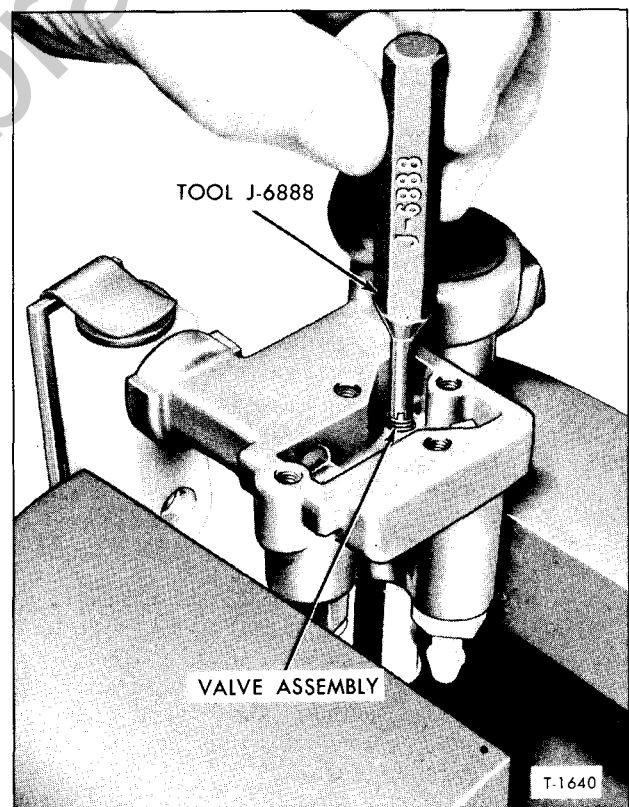
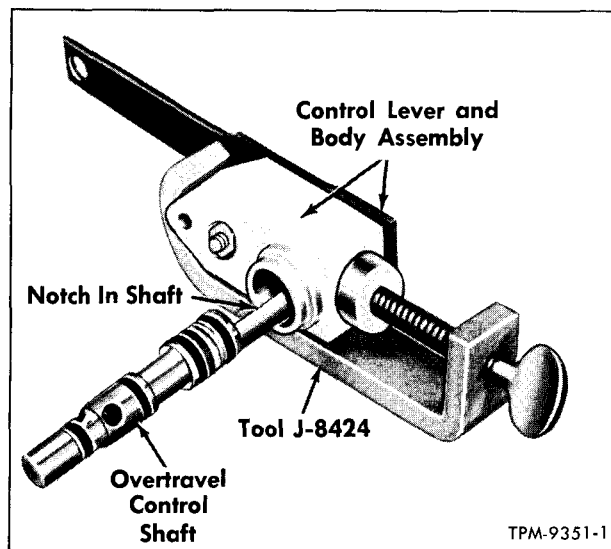

Figure 15—Replacing Valve Core Assemblies
Figure 16—Replacing Overtravel Lever
1. Remove inlet adapter and check valve assembly (23) from valve body (8). Remove outlet adapter (24). Remove adapter O-rings (26). Remove air line fitting gasket (22) from adapters. Remove outlet adapter screen (25).
2. Remove four cover screws and lock washers (1) from cover and bracket (2). Remove cover and bracket and gasket (3).
3. Position valve with delay plug (30) at top. Unscrew delay plug from valve body (8). Drain silicone fluid from cavity. Remove plug O-ring (31). Unscrew piston pin (32) from control shaft (11).
4. Remove delay cover retainer (36), cover (35) and cover O-ring (34). Remove delay piston (33). Discard O-ring.
5. Remove valve lever screw and lock washer (4) from valve lever. Remove exhaust valve and intake valve lever (6) from valve body.
6. Remove valve stem lock clip (5) from stem of exhaust valve core. Spread locking arms and slide clip from around stem.
8. Remove intake valve core (7) with tool (J-6888) as shown in figure 15.
9. Remove exhaust fitting (27) and screen (28), then remove exhaust valve core (29) with tool (J-6888) as shown in figure 15.
10. Remove plug retainer (18) from overtravel control body (17). Retainer must be cut off. Use caution to avoid damage to nylon body. Remove overtravel body plug (13).
11. Place forked end of tool (J-8424) around shaft in overtravel control body, then tighten clamp screw. Refer to figure 16.
1. Install intake valve core (7) and exhaust valve core (29) with screen (28) in control body (8) as shown in figure 15. Tighten to proper torque. Install exhaust fitting (27).
- a. Install overtravel lever (20) on control body. Place lever stud nut (19) on stud and tighten to torque listed in "Specifications" at end of this section.
- b. Place overtravel lever large spring (15), and overtravel lever small spring (16) inside piston (14). Insert piston in control body (17).
- c. Place three new O-rings (10 and 12) on overtravel control shaft (11). Lubricate shaft and O-rings with multi-purpose grease.
- d. Position fork of tool (J-8424) so that shaft can be inserted in body. Carefully apply pressure with clamp screw (fig. 16). Compress springs only enough to allow shaft to be inserted. Install over-